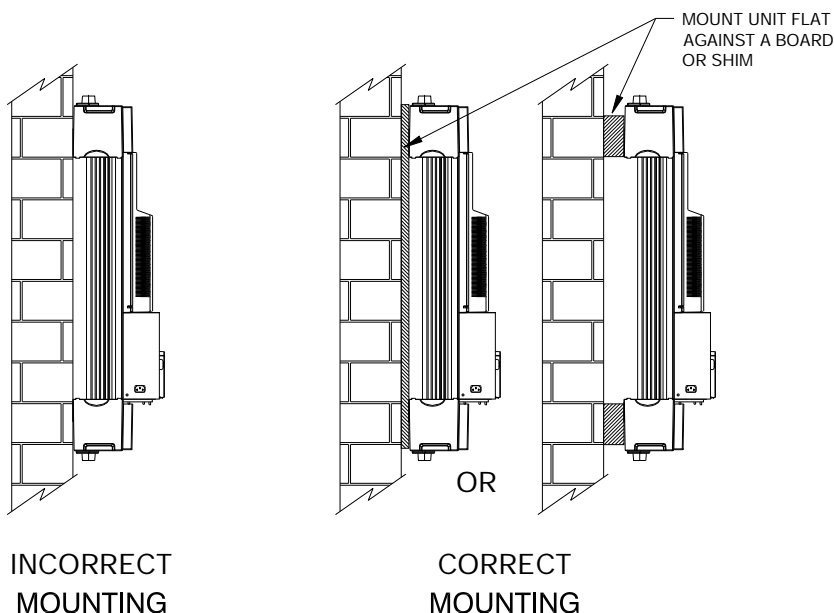

Figure 1E
Step 2: The Hallett has four keyhole slots for convenient mounting – all four should be used. **Do not mount the unit directly to an outside wall; mount on plywood or shims – See Figure 1E.** Do not install the unit horizontally. Remove the top and bottom covers of the unit to make the mounting holes accessible.